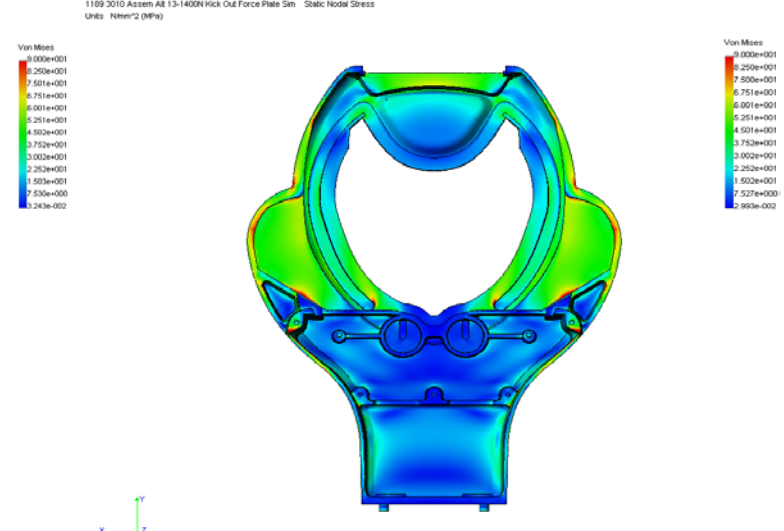

Figure 3:
- *Figure 3* – Modified design with constraints that represented actual